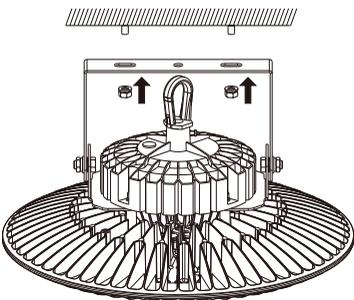

Fig. 6
3. Using 2 screws, secure the bracket to the desired surface. (**Figure 6**).